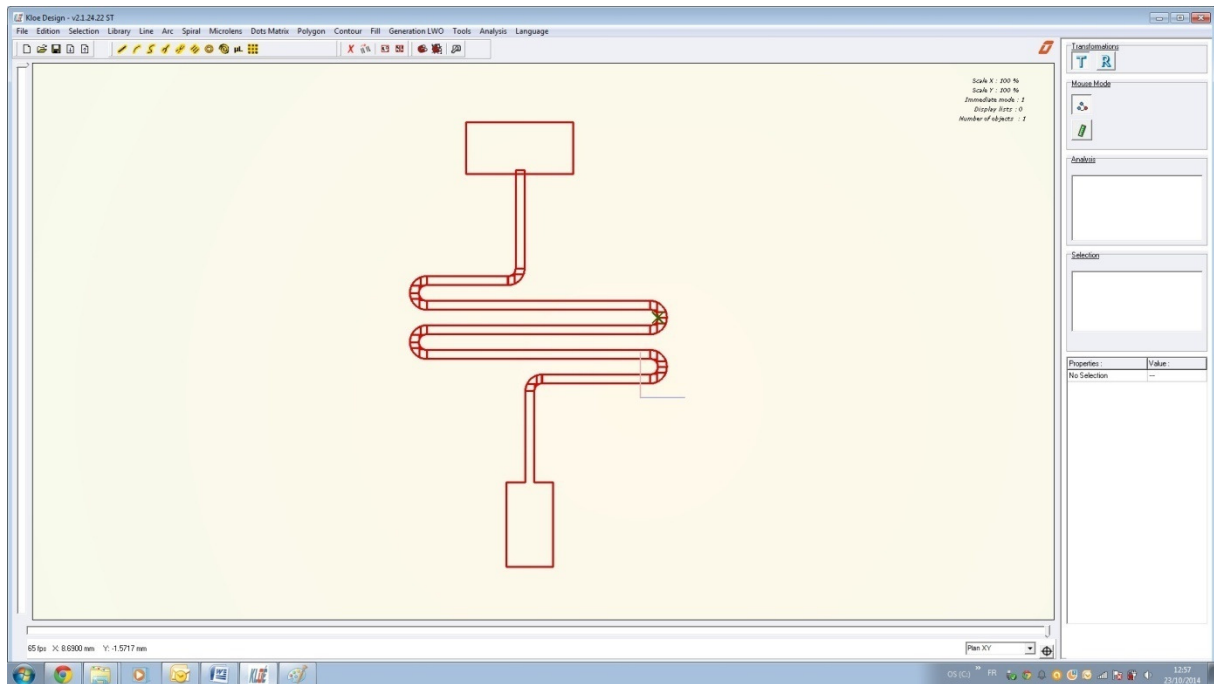

Fig 7 : Simulation LWO
- The software will ask for a writing velocity and a repositioning velocity. Click on "Ok" to accept the default values. A green cross will move all over the graphic panel, drawing the pattern generated. This cross represents the way that the trajectories of the pattern will be written by the equipment (Fig7). The red lines represent the trajectories during which the laser is on, the green lines (if present) the ones executed by the stages but with the laser off.